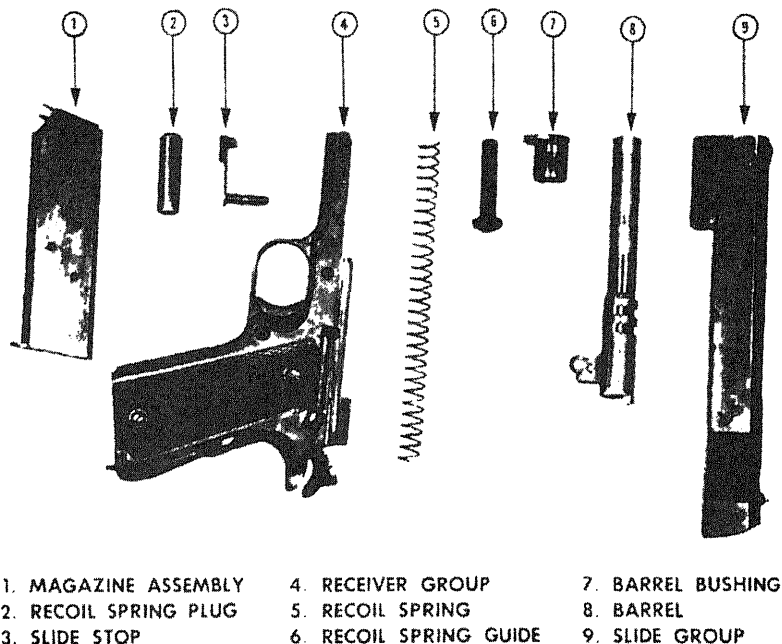

Figure 4-37.—Parts of the pistol in order of field-stripping.
7. Push the barrel link forward and remove the barrel from the front end of the slide, as shown in figure 4-36. This completes the field-stripping. Observe figure 4-37. It illustrates the parts of the pistol in the order of the field-stripping just completed.
Invert the receiver (the safety lock must be in the FIRE position) and engage the guide rails of the receiver in the grooves of the slide. (See fig. 4-37.) Push the receiver all the way forward and lock it with a quick motion.